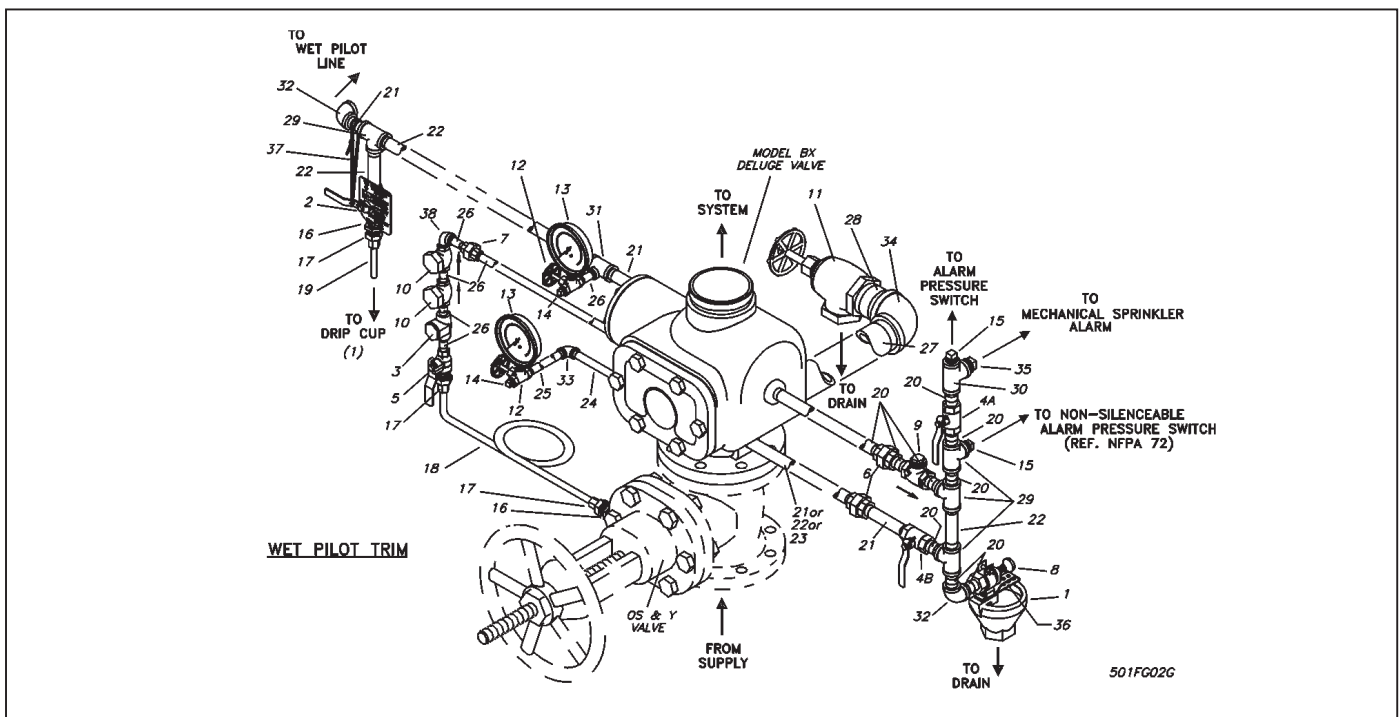

Figure 2 — Wet Pilot Line Trim
The Wet Pilot Trim set (Fig.2) is used with every Model BX Deluge Valve. This trim set is connected to the push rod chamber outlet and provides 2" main drain, alarm test, supply pressure gauge and push rod chamber supply connections. It is needed when wet pilot line detectors (Model PLD) or the hydraulic manual emergency stations/pull boxes (Model A & B) are used for releasing. Included in the trim are a push rod chamber pressure gauge, a ball valve for manual emergency operation of the deluge valve, and a connection for the releasing device.
Wet pilot line operation is the simplest method of deluge valve actuation. The trim is a basic one and is required on all Reliable Model BX Deluge Valves regardless of application. Shown in Figure 2, it contains components required on all installations, such as 2" main drain, alarm test, supply and push rod chamber pressure gauges and push rod chamber connections. The wet pilot line consists of a line of closed detectors (Model PLD) located over the area to be protected. This line contains water under pressure and is connected to the outlet of the push rod chamber of the deluge valve. When one of the pilot line detectors actuates, the push rod chamber is vented and the deluge valve operates. The deluge valve can also be operated manually by opening the ball valve of the hydraulic manual emergency station or the optional Model A Hydraulic Manual Emergency Pull Box (see Reliable Bulletin 506).
Deluge Valves have 6 tapped openings for trim connections. Each opening is marked on the valve to indicate its use. The recommended trim installation is as follows (Figure 2):
- Install Nipple (21) for 6" and 100mm valve, or nipple (22) for 150mm valve, or nipple (23) for 4" valve in tapped opening marked "TEST".
2. Install Nipple (20) in tapped opening marked "ALARM" and connect balance of this trim line. Check Valve (9) must be installed as indicated in Figure 2 to allow flow from the deluge valve to alarm devices.
3. Install 1/4" Nipple (24) in tapped opening marked "SUPPLY" and connect balance of this trim line.
4. Install 1/2" Nipple (21) in tapped opening marked "OUT" and connect balance of this trim line.
5. Install 1/4" Nipple (26) in tapped opening marked "IN" and connect balance of this trim line. Item 16 must be connected to the inlet of the control valve for each deluge valve as shown.
6. Install 2" Nipple (27) in tapped drain opening and connect balance of this trim line.